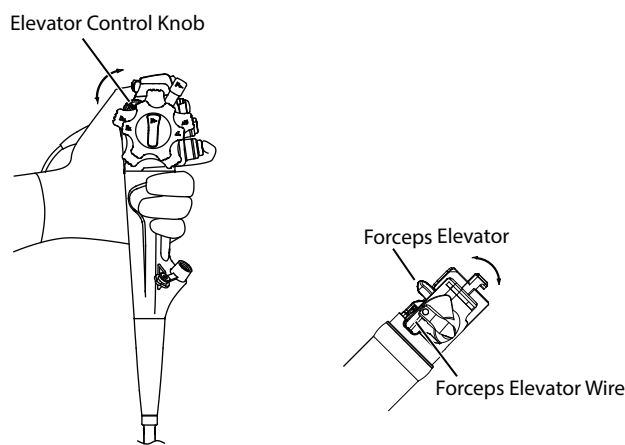

Figure 3-4 Inspecting the Forceps Elevator
- As shown in Figure 3-4, slowly rotate the elevator control knob clockwise and ensure that the forceps elevator wire stretching out from the distal end is not broken or bent.